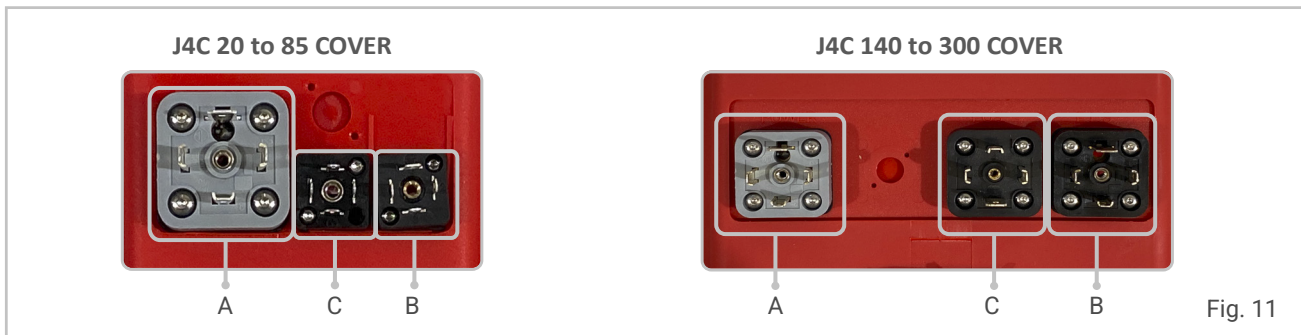

Fig. 11
C. plug - Connect a cable between PIN 1 (on the right side) and PIN Earth (on the bottom) (Fig. 11).